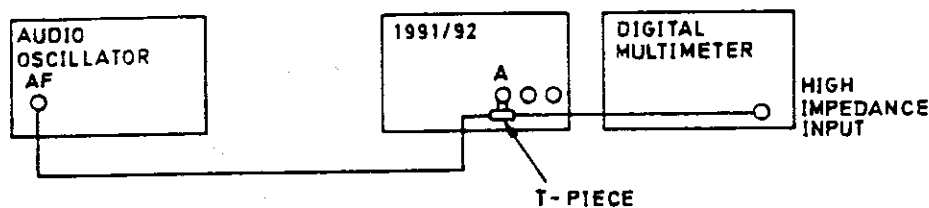

Figure 6.28 - Connections for Channel A Sensitivity PVP (II)
6.9.2.3 Channel A PVP (II)
- Connect the test equipment as shown in Figure 6.28